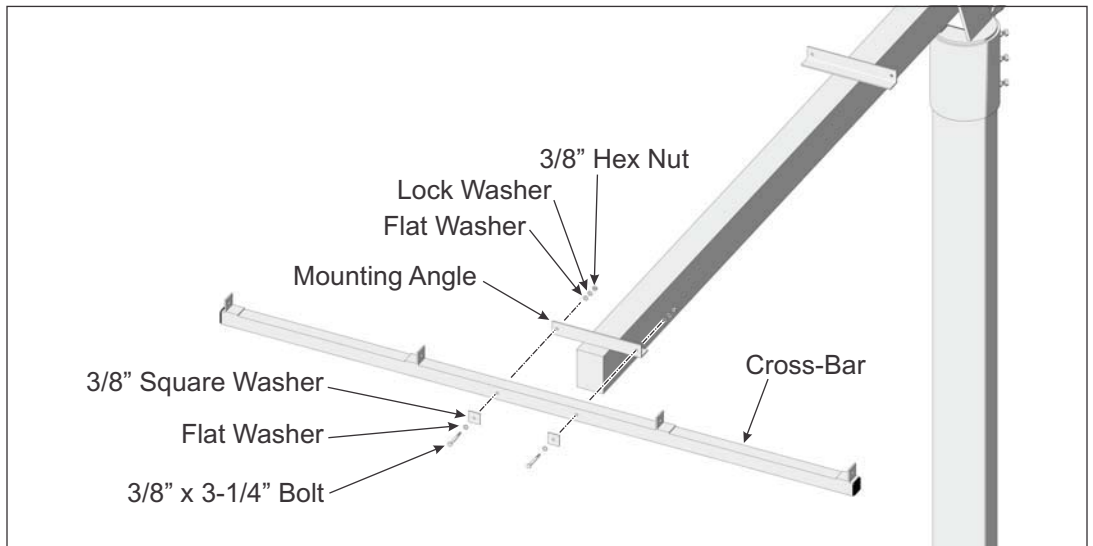

Figure 3-2: Installing Cross-Bar to Strongback
- A. Starting at the south location, position the Cross-Bar on the outside of the mounting angle of the Strongback. Align the mounting holes and secure using 3/8" flat and square washers along with the 3/8" x 3-1/4" bolts and lock washer placing the square flat washer against the Cross-Bar. Tighten hardware and **Torque to 30-32 ft.-lbs.**(See Figure 3-2)
- B. Continue in this manner and install the remaining three Cross-Bars to the Strongback. Refer to Figure 3-2 as needed for proper positioning.